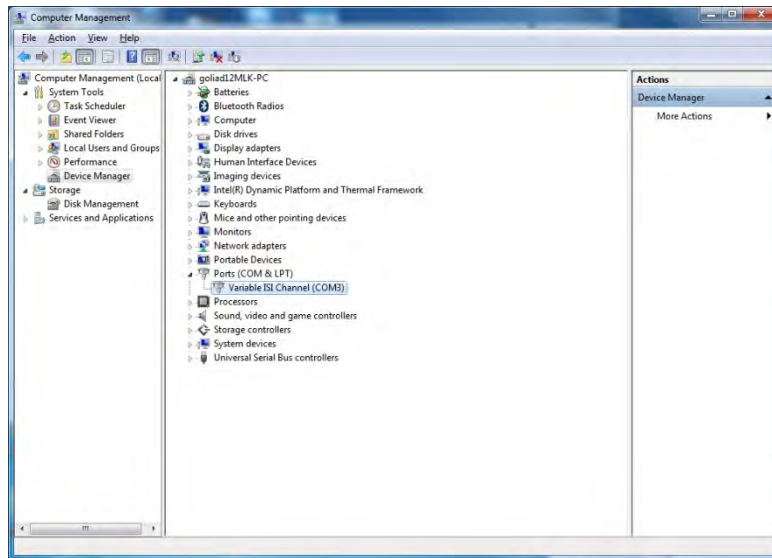

FIGURE 34. DEVICE MANAGER WINDOW AFTER INSTALLATION
7. Once Installation completes, the Device Manager should look like Figure 34.